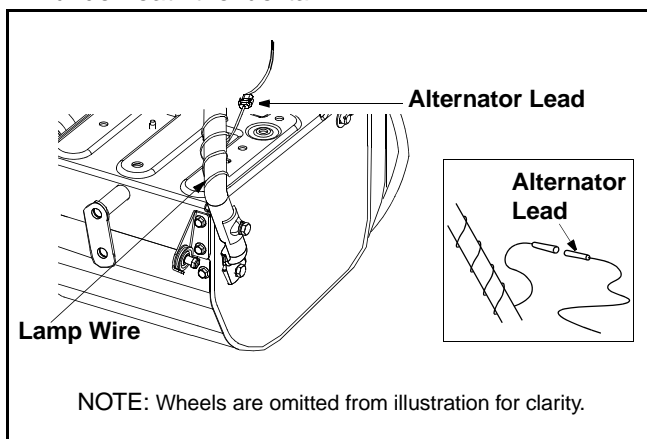

Figure 4
- Unwrap the headlight wire which is attached to the headlight, beneath the handle panel. Wind the headlight wire around the lower right handle until excess slack is removed. See Figure 4.